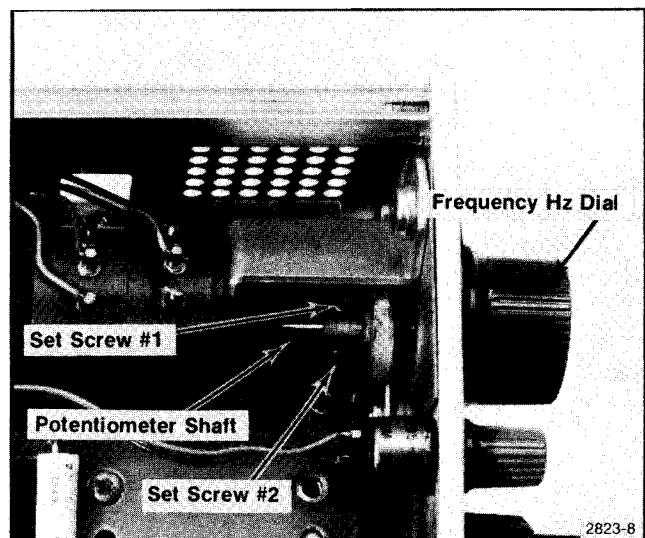

Fig. 4-5. Left side view of SG 505.
c. CHECK/ADJUST—the SG 505 frequency for 4.000 kHz as follows: Loosen internal set screw #1 located on the reduction drive shaft of the FREQUENCY Hz potentiometer assembly R530 and R520 (see Fig. 4-5). Position the FREQUENCY Hz dial to 4. Loosen set screw #2 and turn the potentiometer shaft with pliers until the counter reading is 4.000 kHz. Tighten set screw #2 without moving the FREQUENCY Hz dial. Turn the FREQUENCY Hz dial to gain access to set screw #1 and tighten.